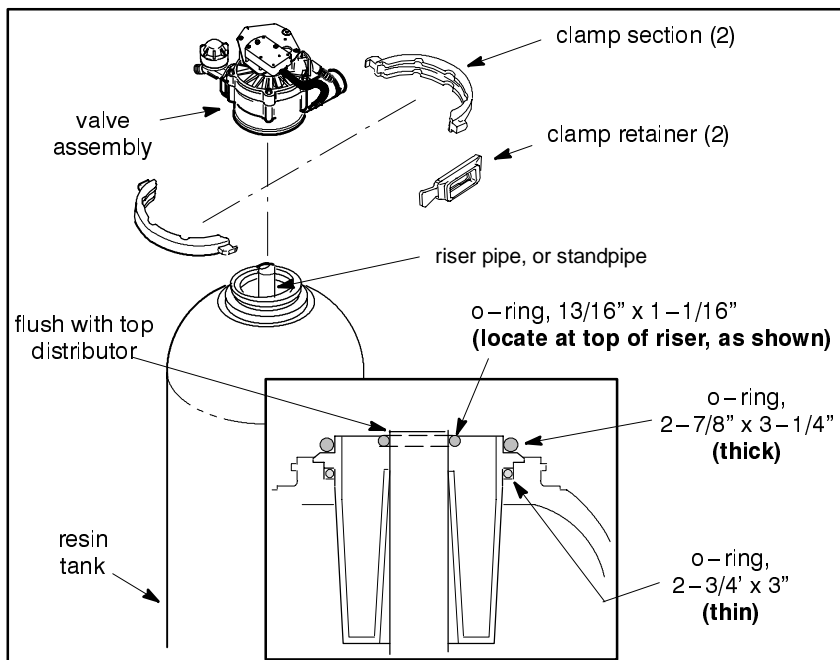

Figure 7
13. Remove retainer clips and clamps from around the tank neck. Set aside. **Figure 7.**
14. Remove valve from resin tank and set aside. **Figure 7.**
17. With all o-rings (lubricated with silicone grease) and the top distributor in place in the top of the tank, check the riser pipe length. It should be about even with the top edge of the top distributor. **Figure 7**
18. Be sure all parts are clean and free of resin beads and other debris, including the bottom of the valve assembly. Lightly lubricate with silicone grease the o-ring sealing surface in the inside of the valve port, at the bottom of the valve. **Figure 7.**
19. Locate the distributor o-ring at the very top of the riser pipe as shown in **Figure 7.** DO NOT SLIDE IT DOWN TO REST AGAINST THE TOP DISTRIBUTOR.
20. Carefully lower the valve assembly onto the tank, aligning it with the riser pipe, and work over the o-ring and onto the adaptor. Then clamp in place. **Figure 7.**
21. Insert brine valve back into brine well in new salt storage tank. Reconnect brine line to end of nozzle. Do Not Over Tighten! **Figure 7.**